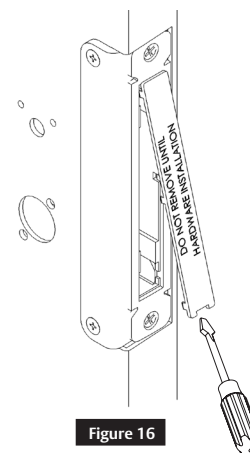

Figure 16
2. Remove mortise filler cap and discard. (Figure 16)